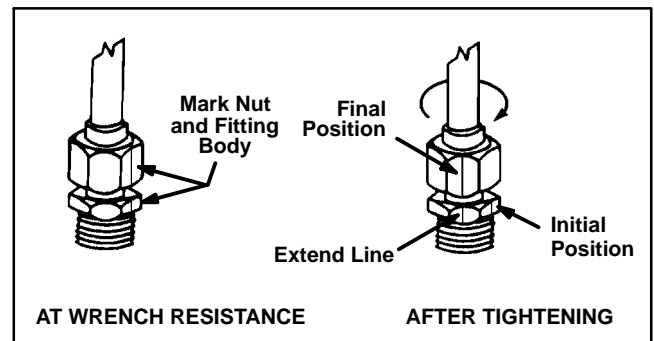

Figure 4
5. If a torque wrench is not available or if space at the swivel nut prevents use of a torque wrench, an alternate method of assembly is the Flats From Wrench Resistance (F.F.W.R.) method (Fig. 4).